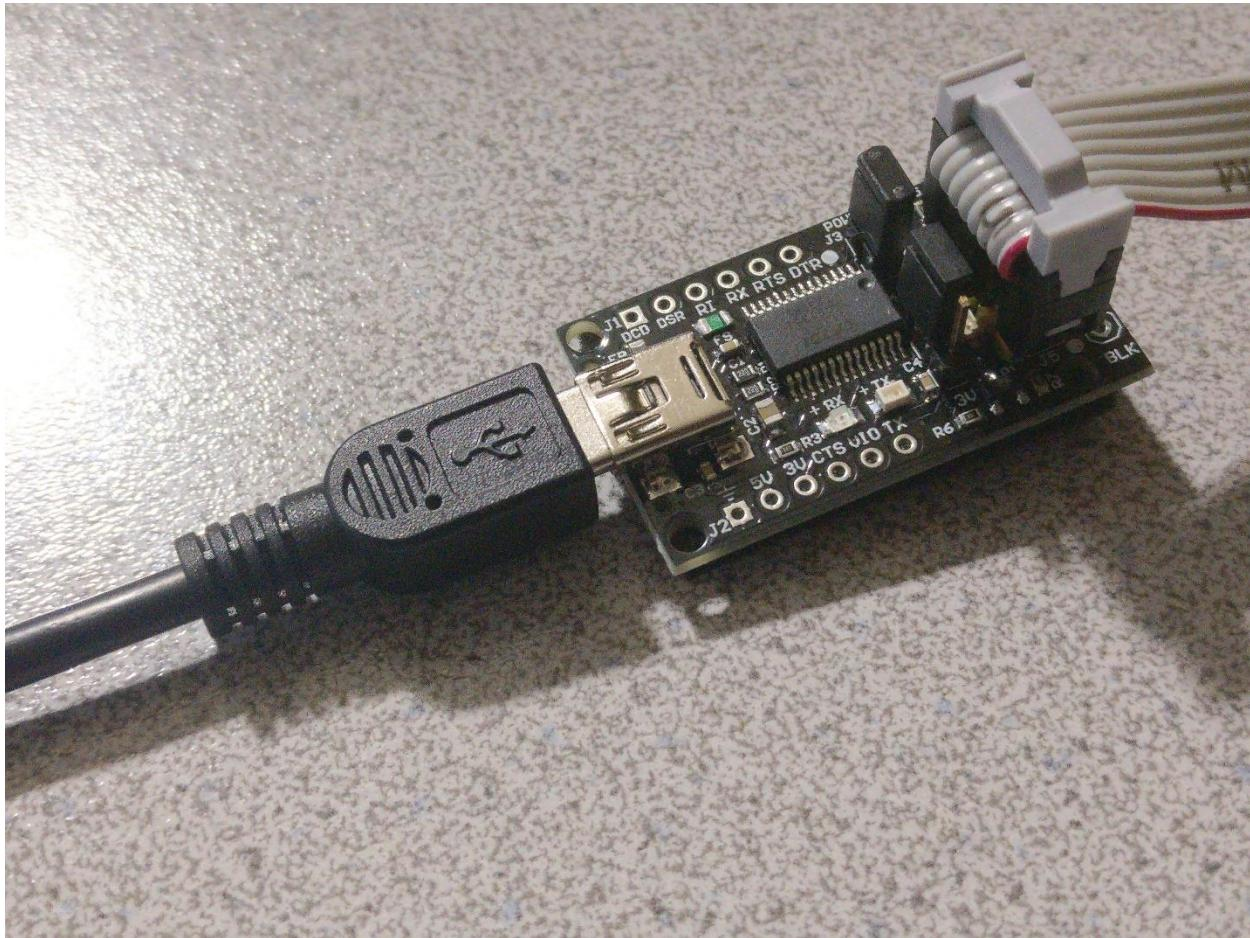

Figure 8-17 – Mini-B USB cable plugged into the Thunderbird12's Board Distribution Manager (BDM)
8. Plug the included Mini-B USB cable into the BDM. Refer to Figure 8-17 for an example of what the cable should look like plugged into the BDM.